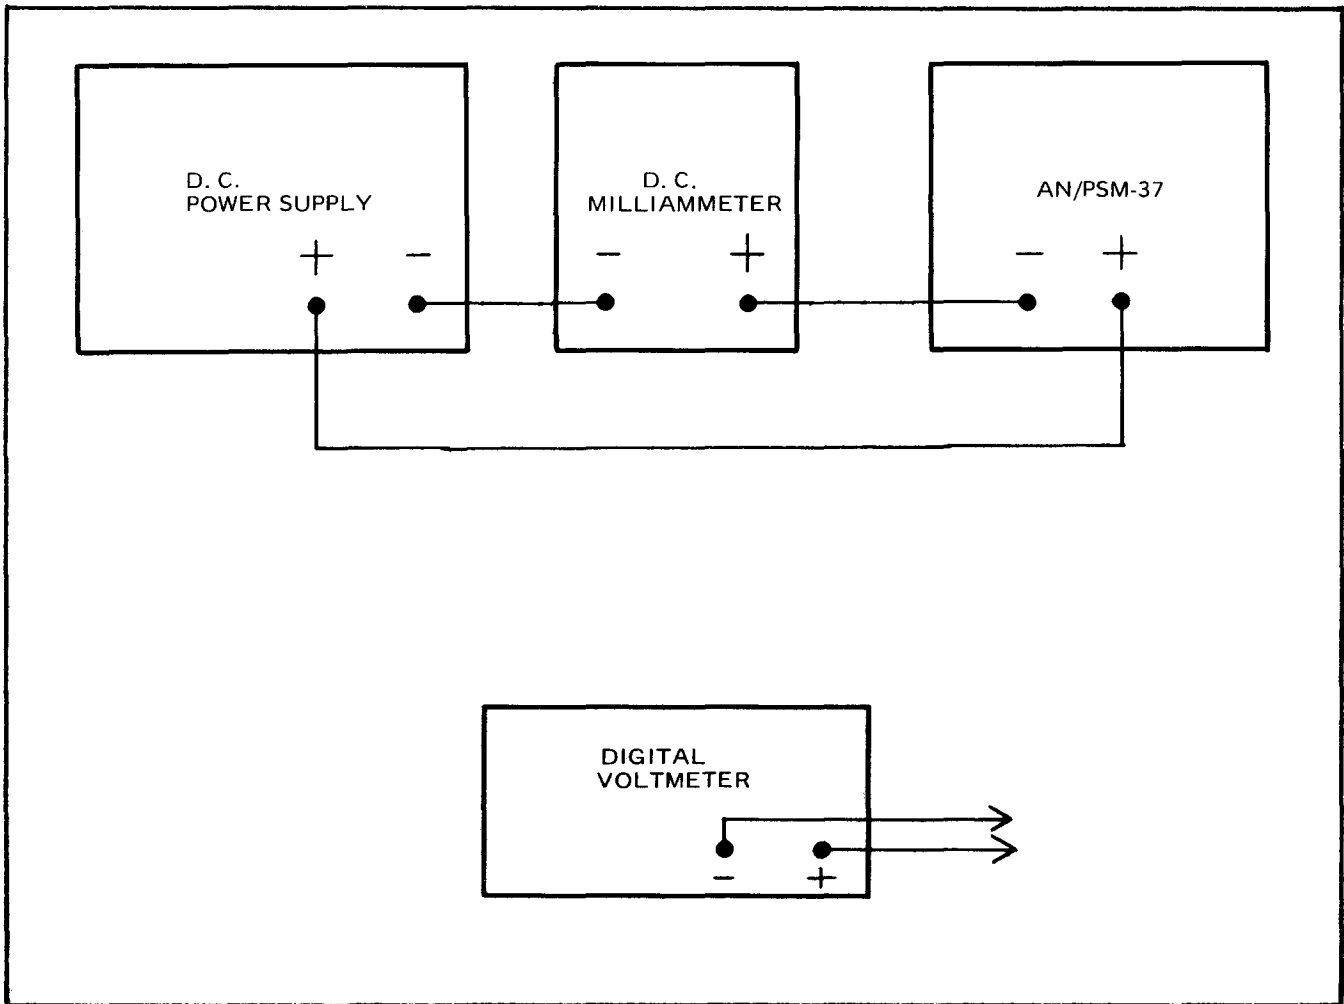

Figure 5-2. Test Equipment
c. Obtain equipment called out in figure 5-2 from Section II, Table 2-1.
e. Make connections as shown in figure 5-2.